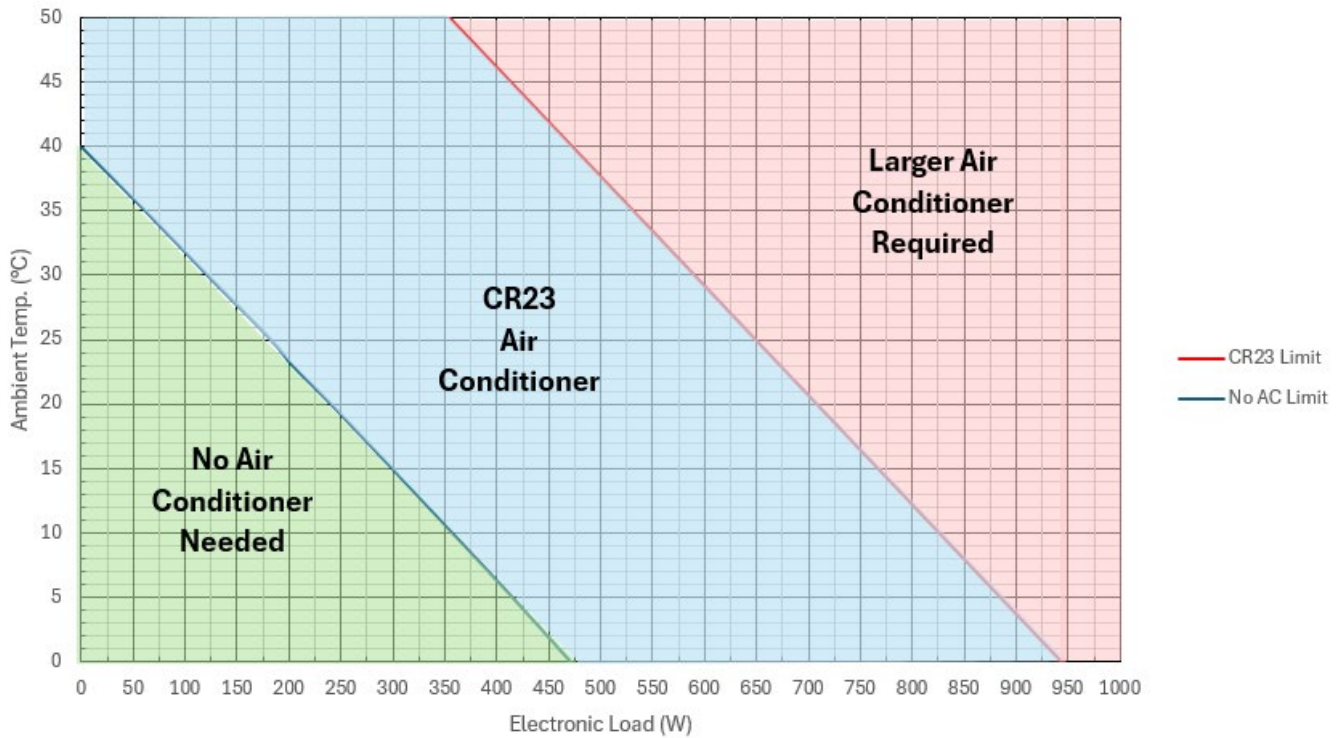

Figure 1: Electronic Load vs. Ambient Temperature
6. **Indoor or Outdoor** - The calculations in Figure 1 apply only to an enclosure not exposed to direct sunlight.
Figure 1 in this section illustrates the allowable ambient temperature outside an enclosure vs. a heat load for various recommended cooling solutions. These calculations apply to the 6RU TrueEdge NEMA Type 4 Low-Profile enclosure.